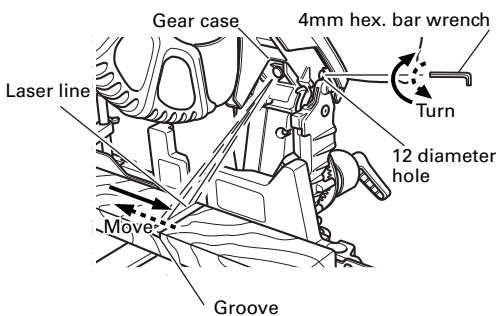

Fig. 19
- (2) Then insert a 4mm hex. bar wrench in the 12 diameter hole on the side of the gear case, turn the hex. socket set screw to move the laser line. (If you turn the Hex. socket screw clockwise, the laser line will shift to the right and if you turn it counterclockwise, the laser line will shift to the left.) When you work with the ink line aligned with the left side of the saw blade, align the laser line with the left end of the groove. (Fig. 19) When you align it with the right side of the saw blade, align the laser line with the right side of the groove.